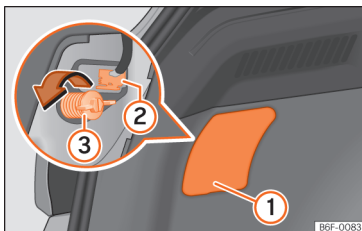
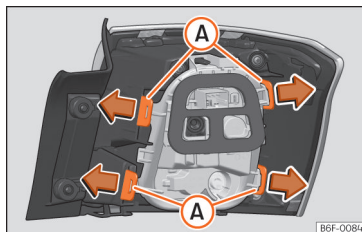

Fig. 170 Boot: access to the bolt securing the tail light unit.
Fig. 171 Retaining tabs on reverse side of tail light.
- Remove the lid, levering the flat side of a screwdriver into the recess >>> Fig. 170 ①.
- Remove the bulb connector ②.
- Unscrew the bolt securing the light ③ by hand or using a screwdriver.
- Remove the bulb holder unlocking the retaining tabs >>> Fig. 171 A.